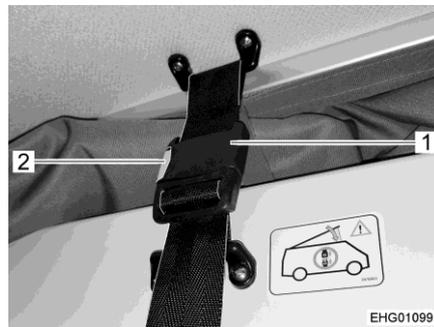

Fig. 35 Latch (sleeping roof)
- Open the snap lock (Fig. 35,1). To do this, press the red push button (Fig. 35,2).